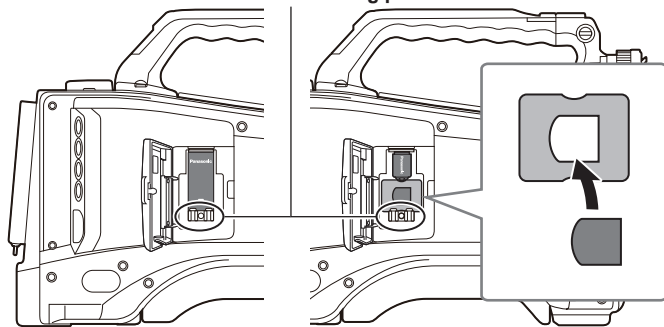

Fig. 4
- 4** (AJ-WM50 only) Place the module holder under the wireless module. (Fig. 4)
- 5** Fix the wireless module fixing part removed in Step 2 with a screw. (Fig. 4)